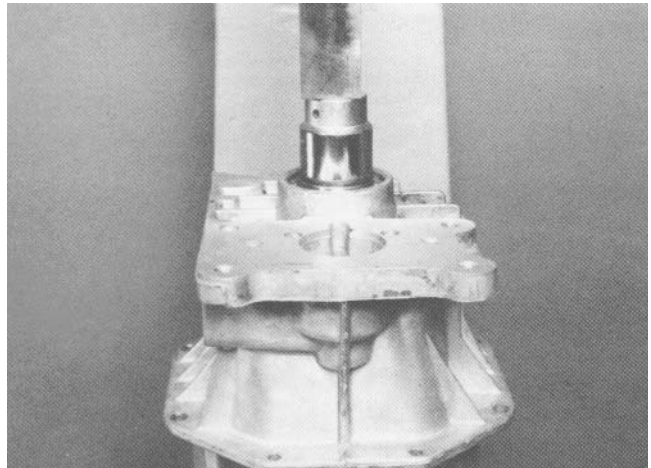

Figure 38
3. Put the front housing on a press. Using a press plate, push new pinion outer bearing cup into the housing until it bottoms in the housing (Fig. 38).